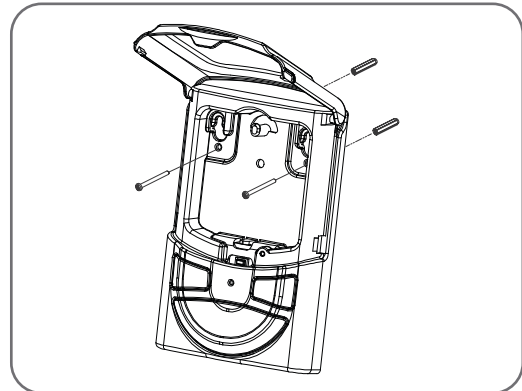

Fig.6.6.3
- Mount the transmitter using parts provided in a convenient location, yet out of reach of children and at least 5 feet off the ground. (Fig 6.6.3)